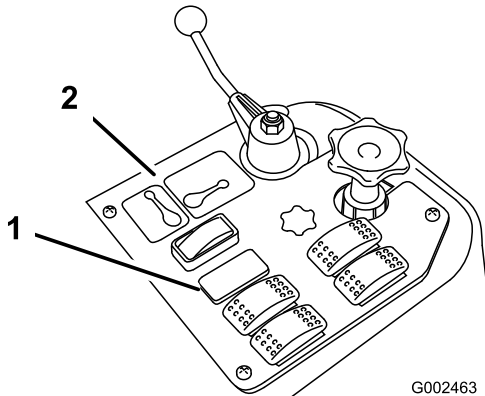
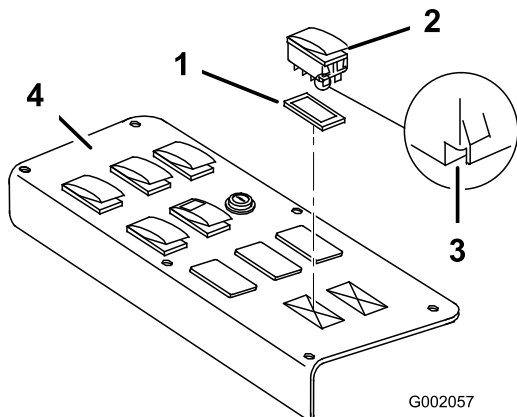

Figure 17
Figure 18
1. Remove the spray control panel to expose the bottom side (Figure 17 for the 1200 and Figure 18 for the 1250).
2. Remove the plug in the sonic boom slot from the spray control panel on the vehicle, and install the rocker switch provided in its place (Figure 17 for the 1200 and Figure 18 for the 1250).
Note: Ensure that the orientation of the switch matches what is shown in Figure 18, with the notch pointing toward the rear of the vehicle.